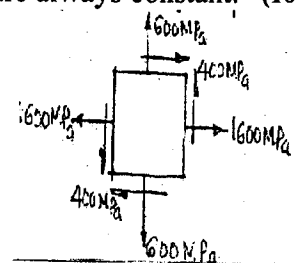
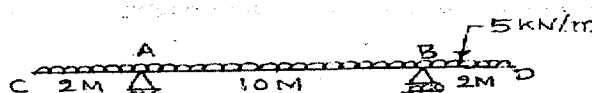

Fig. 3(b)
Fig. 5(c)
- b. Using Mohr's circle, determine the principle stresses and the planes, Max. shear stress and the planes. Show the same on the elements separately. Refer fig.3(b). (10 Marks)
- 4 a. Prove that the volumetric strain in a thin cylinder is given by $\epsilon_v = (2 \cdot \epsilon_c + \epsilon_L)$ Where ϵ_c = hoop strain, ϵ_L = long strain and express the same in terms of diameter of the cylinder (D), thickness (t), Youngs modulus (E), internal pressure (P) and Poisson's ratio (μ). (10 Marks)
b. Derive expressions relating Load, Shear Force and Bending Moment (M) with usual notations. (05 Marks)
c. Draw SF and BM diagrams for the loading pattern on the beam shown in fig.5(c). Indicate where the Inflexion and contraflexure points are located. Also locate the maximum BM with its magnitude. (12 Marks)